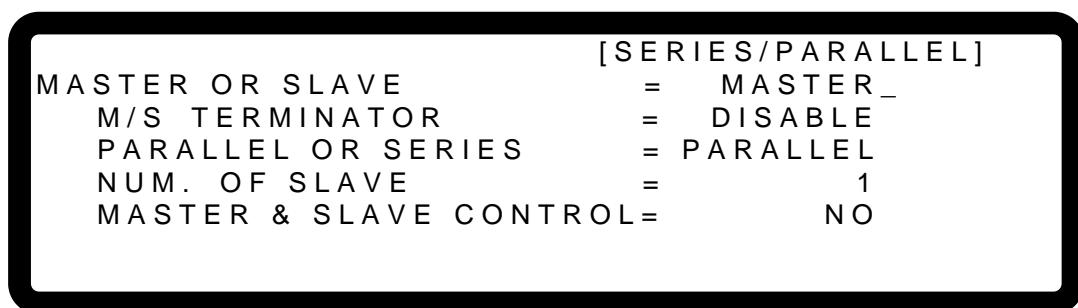

Figure 3-39
2. Use the numeric key (**0**) or the “Rotary” () knob to set MASTER as shown in Figure 3-39.
4. Use the numeric keys (**1** - **0**) or the “Rotary” (○) knob to ENABLE or DISABLE the TERMINATOR as shown in Figure 3-39.